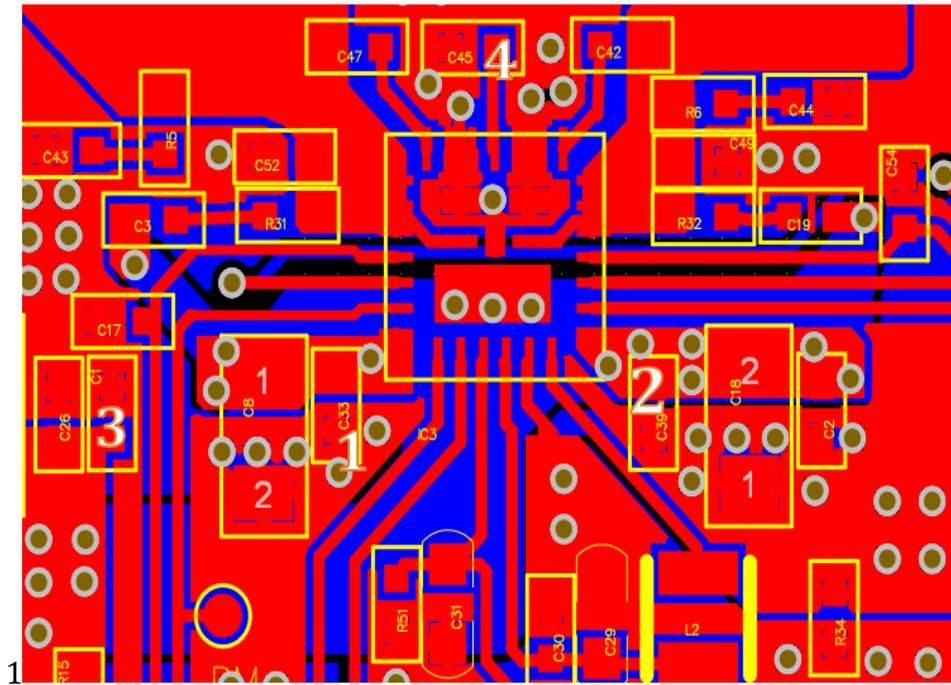

Figure 5: Capacitor location around NU1009
- [1]~[4] Place small-size input capacitors as close as possible between the Vin pin and PGND pin besides the NU1009. These capacitors can effectively filter out high-frequency noises due to their low ESR and ESL. Please refer to C33, C39, C1, C45 in Figure 5.
Here, it uses power-Z to capture the real input current and the Isense reported by MCU which represents the current sense with calibration through an equation. The Figure 5 and table 6 shows the 10W efficiency of EVM with the receiver (NuVolta EVM) under different load condition.